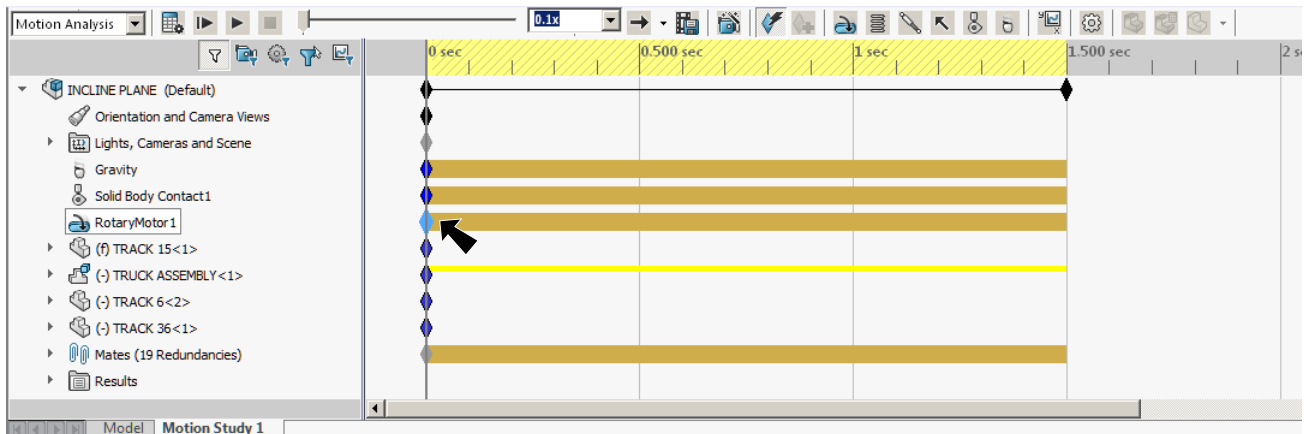

Fig. 5
Step 1. Double click RotaryMotor2 Key Point at T = 0, Fig. 5.